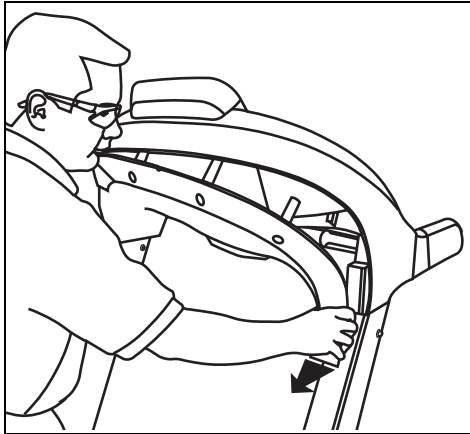

Figure 11: Remove display console back cover
4. To remove the display console back cover, pull in on one side as you pull the cover down toward the floor. This should flex the cover and enable you to slide it past the fasteners on the upright support. See Figure 11.